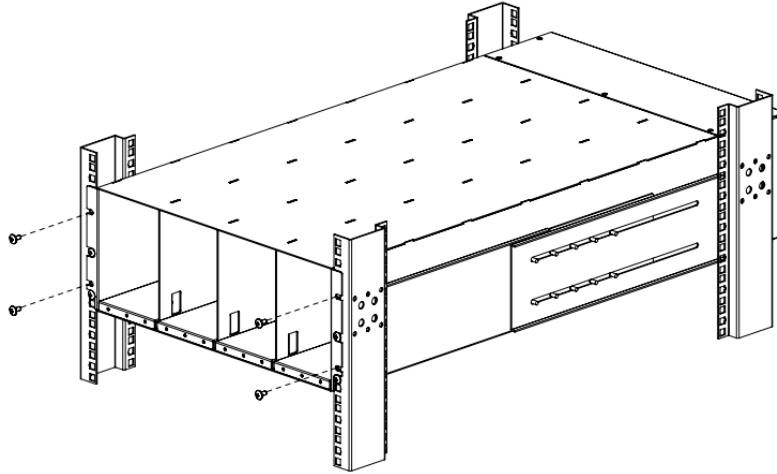

Figure 49: Secure the Mounting Brackets to the Rack
50. Align the mounting brackets with the screw holes on the rack and secure the EBP with the supplied 4x Phillips Hex Head M5 screws (see Figure 49).